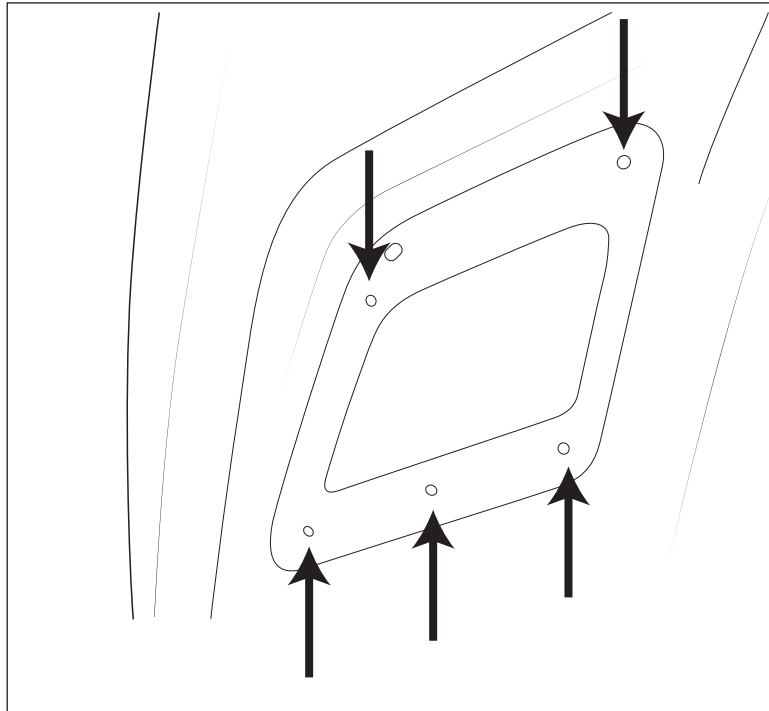

Figure 3
1. The holes for the hood bezels will need to be widened to $11/32$ " -five per side (fig. 3).